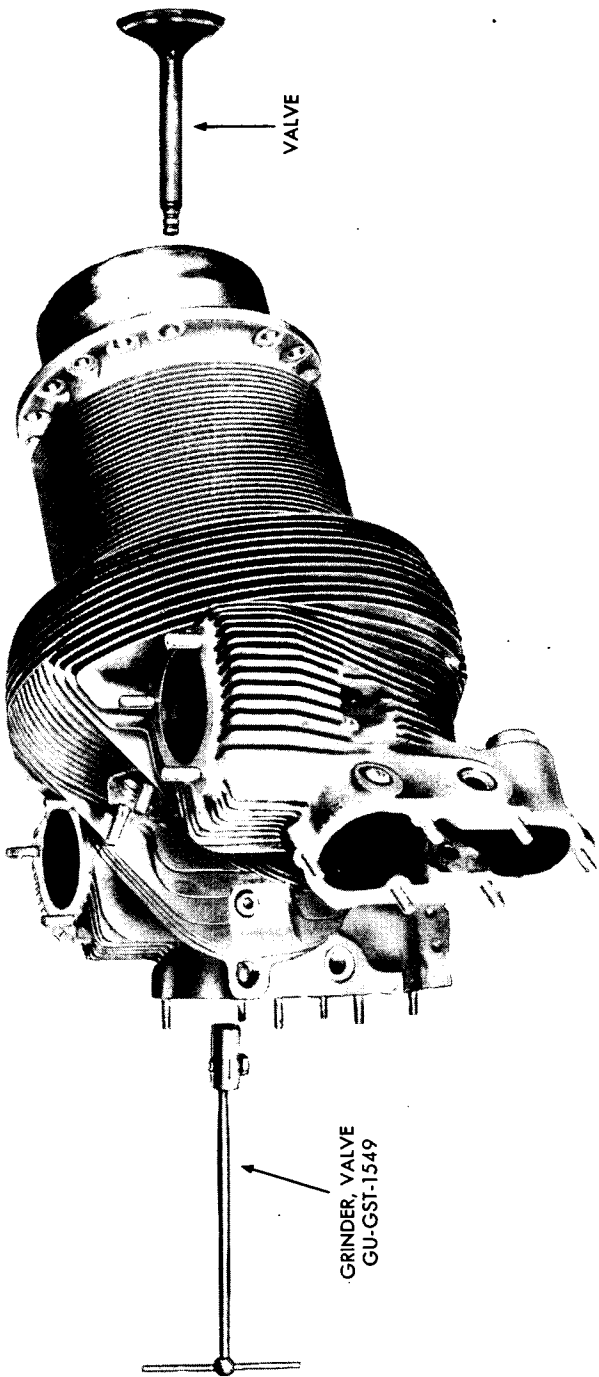

Figure 76—Valve Grinding Equipment
97. TO GRIND VALVES (fig. 76).
(2) GRINDING VALVE SEATS (fig. 76).